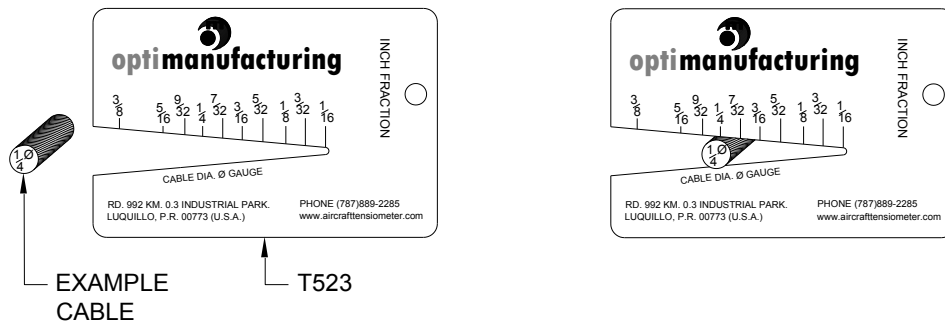

Figure 3-Cable Size Gauge
- a. Confirm cable size being tested using the supplied Cable Size, Gauge, P/N T523.(See Figure 3)